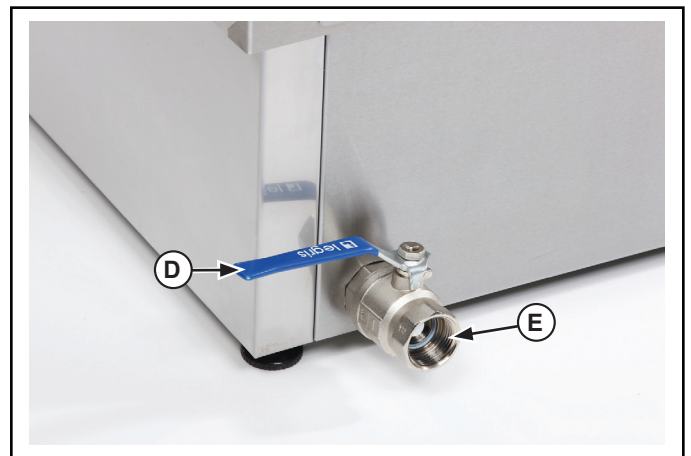

Figure 2. Drain and Drain Lever (shown in the “Closed Position”).
1. Check that the drain valve lever (D) is in the closed position. See Figure 2.
10. When finished using the unit. Turn the temperature control (A) to the "0" setting and unplug unit. When removing hot food containers from unit use gloves, mitts or pot holders to protect hands.
12. Place a suitable container directly under the drain valve (E). See Figure 2. Turn the drain valve (D) to the open position monitoring the flow of liquid going into the container. Use caution to avoid spills that may create a slippery condition. Turn drain valve (D) to the closed position before the container is full. Dispose of the drained water. This procedure may need to be repeated.
13. Turn drain valve (D) to the closed position.